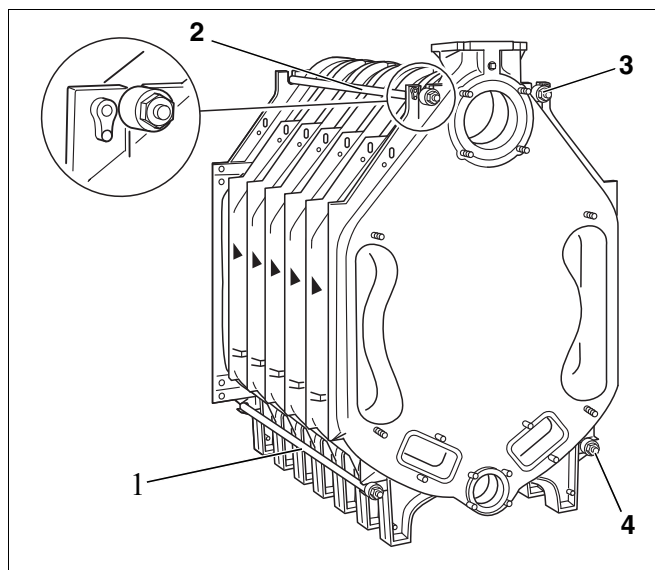

Fig. 22 Fitting the anchor rods
- ▶ Insert the anchor rods (with spring packs fitted) into the cast lugs on the top left and right and bottom left and right, next to the boiler hubs (Fig. 22, [1] to [4]).